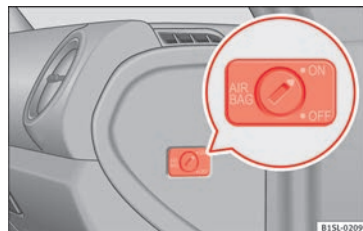

Fig. 20 On front passenger side: Key switch for enabling and disabling the front passenger front airbag.
- Using the vehicle key, turn the key switch to **OFF** » **Fig. 20**.